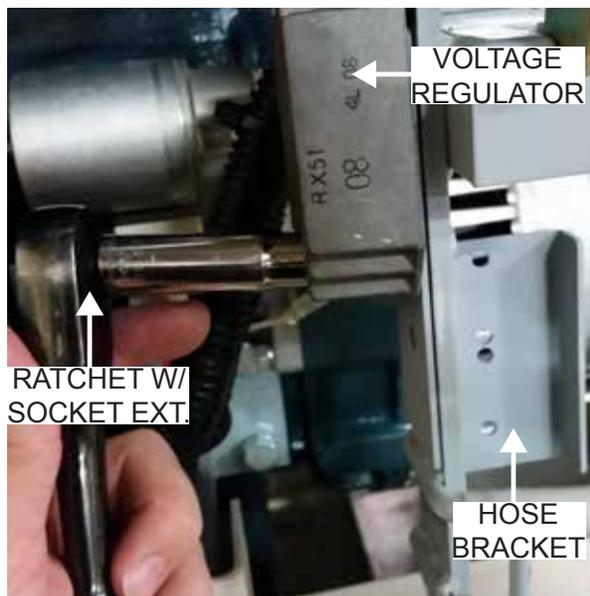

Figure 11. Voltage Regulator-Hose Bracket
2. Align the mounting holes (Figure 11) of the voltage regulator with the hose bracket mounting holes. Install the hose bracket behind the voltage regulator.
3. Using a 10mm socket and same mounting hardware, install the voltage regulator-hose bracket combination (Figure 11) to the voltage regulator's original mounting location.